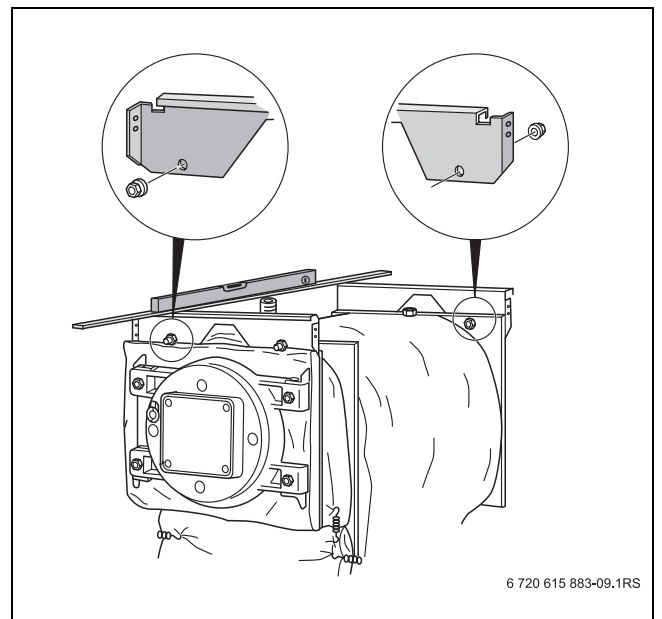

Fig. 10 Locating and securing the front and rear connection plates
- ▶ Insert front connection plate (with trapeze-shaped cut-out facing downwards) over the threaded studs, with the 2 holes at the top, and fasten with nuts (→ Fig. 10).
- ▶ Insert back connection plate (with trapeze-shaped cut-out facing downwards) over the threaded studs, with the 2 holes at the top, and fasten with nuts (→ Fig. 10).
The angled sections on the connection plates should point outwards, and both the front and rear connection plate should be horizontally level (→ Fig. 10).